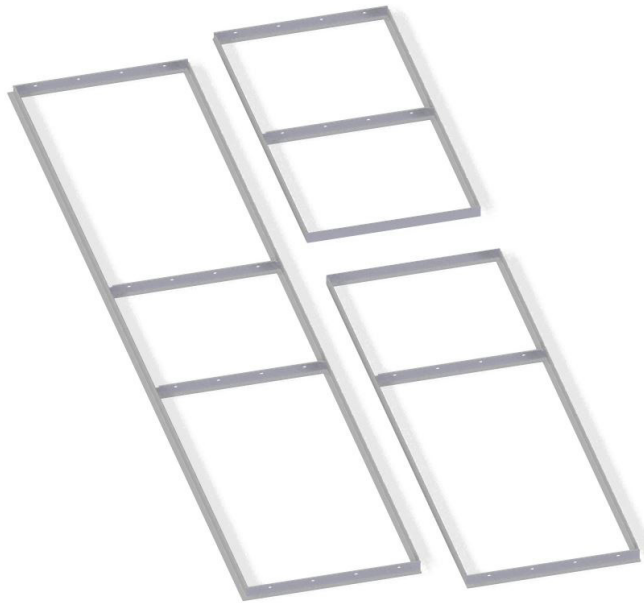

Figure 6. Ceiling Modules
Step 2: Unpack ceiling modules and lay them out on the floor (**Figure 6**) as per the job specific submittal package.